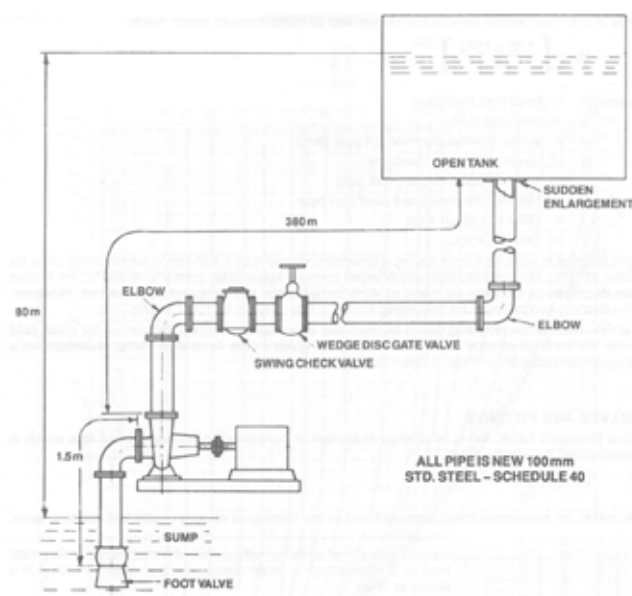

Figure 2: Example of details recorded for a piping system configuration.⁷
- Gather data to define the pumping system configuration (refer to Figure 2).